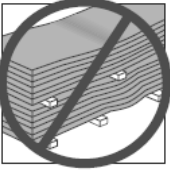

Fig. 2
-Keep planks stacked in bundles off the ground. Support planks with spacers placed no more than 8' apart, and be sure to line them up with the ground blocks to prevent bowing. (Fig 2)